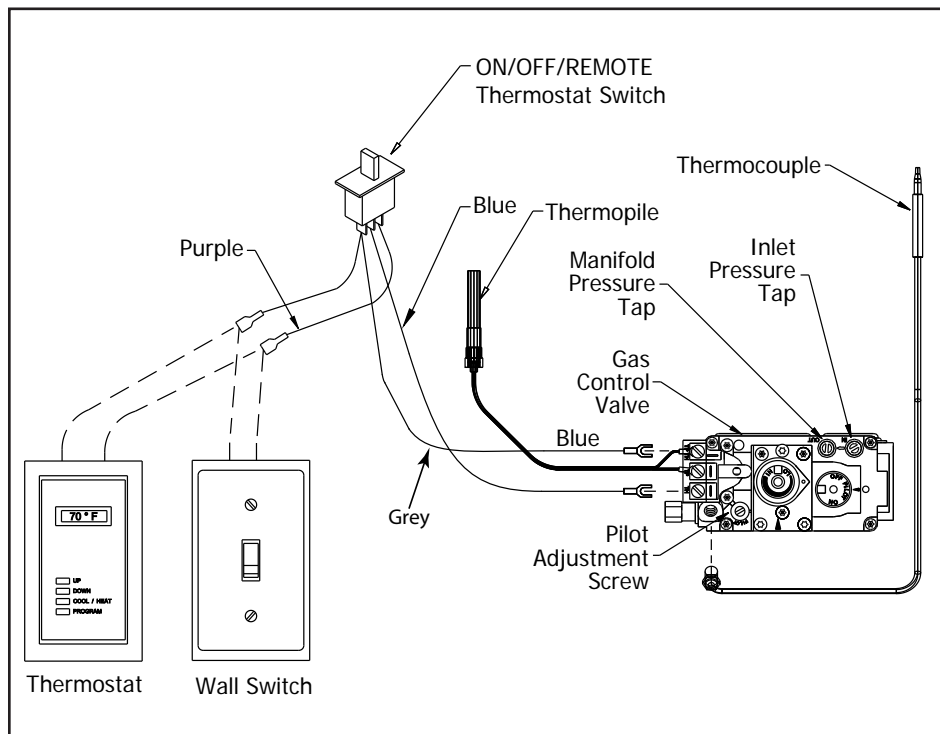

Figure 43: Accessory Wiring
The C34 comes from the manufacture with an on/off switch mounted to the control panel. Access is limited to switch once the unit is hot. **A wall mounted burner switch or thermostat must be used for safety.** See Figure 43 for wiring the switch or thermostat into the unit. Disconnect the connection behind the switch in the control panel as tap into the (2) terminals as shown in Figure 43.